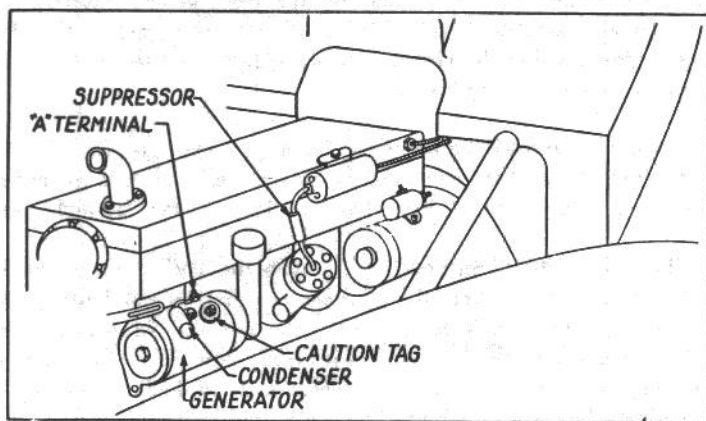

FIGURE 5
1. Install an interference condenser on the generator, fastening it under the ground screw on the generator. Do not use the "FIELD" terminal (See Figure 5). Connect the condenser lead to the "A" terminal on the generator. If generator interference persists, it can be eliminated by cleaning the commutator and re-seating the brushes.
3. Cut the distributor-to-coil high tension lead about one inch from the distributor cap and install the screw-in type resistor. (See Figure 5).